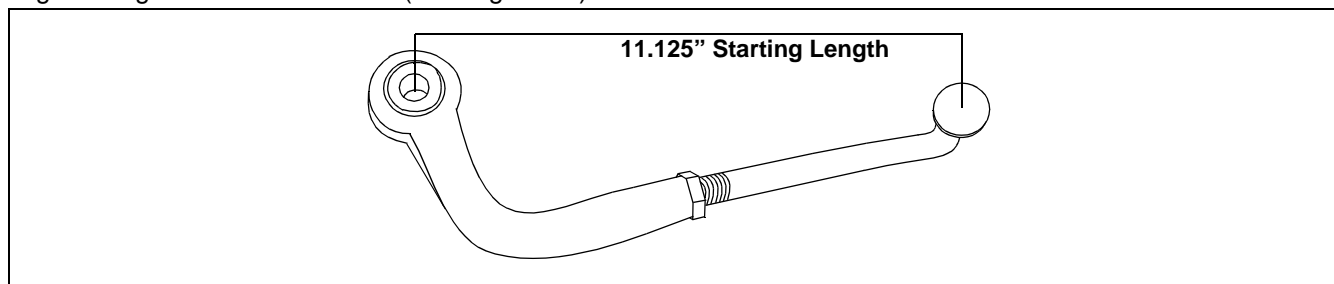

Figure 22
7. Disconnect each clevis pin at the end of each retaining arms to remove from tractor to check length and adjust if necessary. (See Figure 22)
- Shorten the distance shown on Figure 22 by turning the 90 degree rod one complete turn in. (Repeat if same result)
- Lengthen the distance shown on Figure 22 by turning the 90 degree rod one complete turn out. (Repeat if same result)
Note: If after a number of attempts to level the mower deck fails to succeed, adjust the retaining arm to their original lengths of 11.125 inches. (See Figure 22)